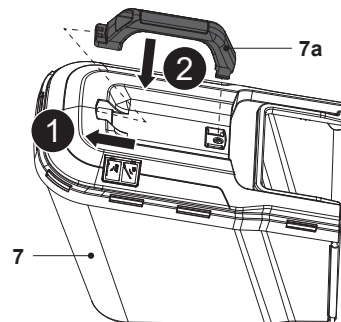

Fig. 6
2. Assemble the carry handle (7a) into the two assembling slots on the top frame of grass catcher (7), paying attention to the correct orientation (Fig. 6).